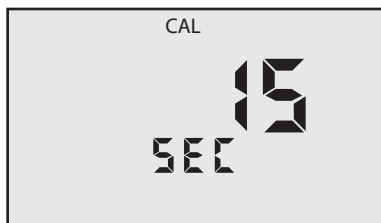

Figure 24
4. Press  $\frac{\text{CAL}}{\text{MCLR}}$  to initiate. **CAL** will be displayed along with the “**15 SEC**” (see Figure 24).